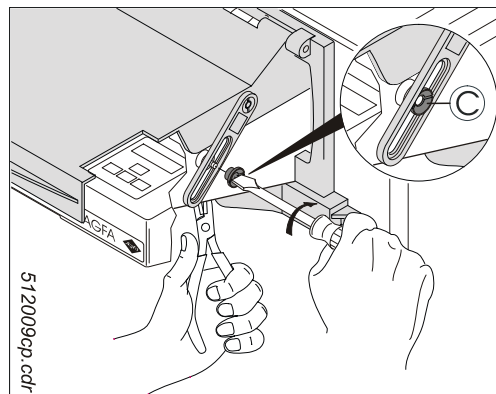

Figure 13: Guide bracket with screw connection
4. Insert the enclosed stud  through the recess of the guide bracket across the screw (see spot in figure 13).
5. Connect the stud and the screw (see figure 13).